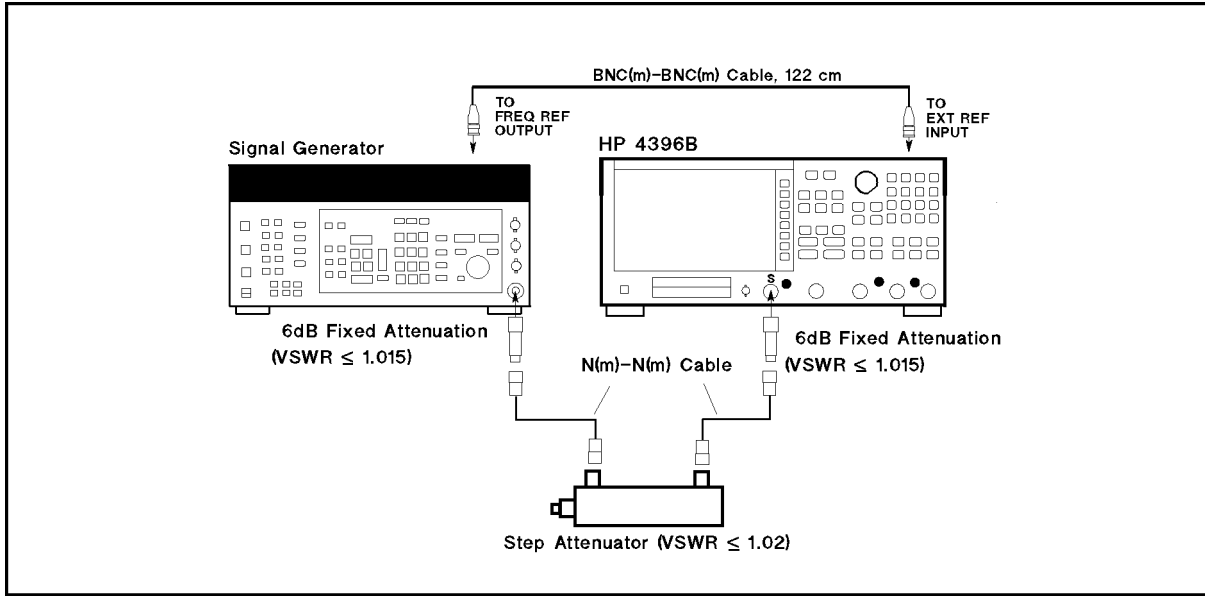

Figure 2-21. Input Attenuator Accuracy Test Setup
4. Connect the test equipment as shown in Figure 2-21.
Connect the signal generator's 10 MHz frequency reference output to the 4396B EXT REF Input on the rear panel as shown in Figure 2-21. With this configuration, both the signal generator and the 4396B are phase locked to the same reference frequency to obtain a stable measurement.